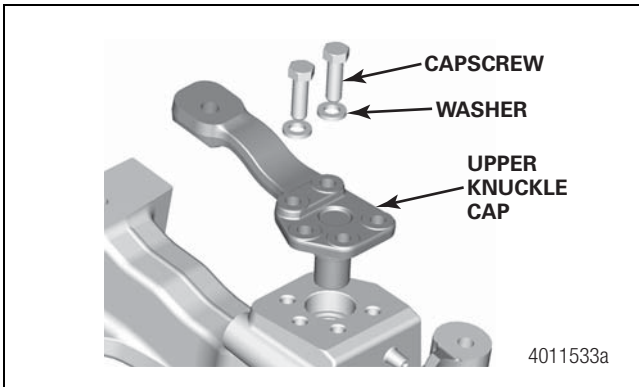

Figure 7.3
5. Install two capscrews and loosely tighten them to hold the upper knuckle cap in place. Figure 7.3.